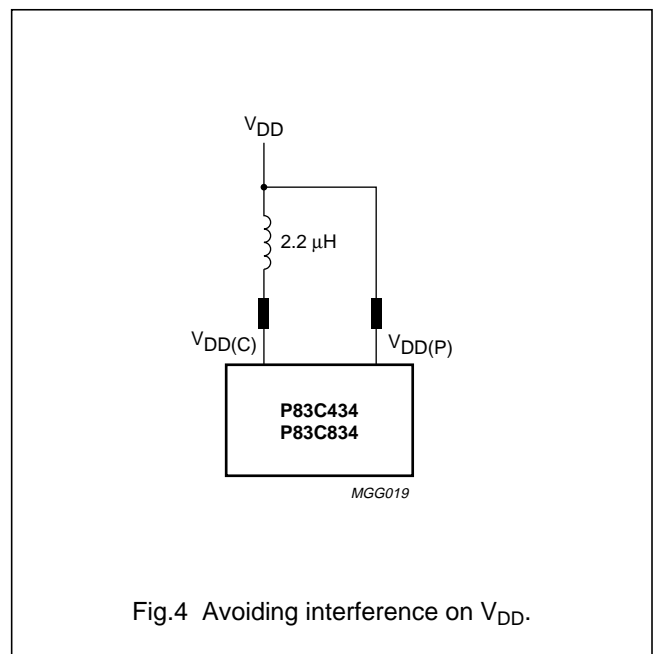

Fig.4 Avoiding interference on V_{DD}.
- External decoupling of the of the CPU supply V_{DD(C)}; to avoid interference on the V_{DD} line, the V_{DD(C)} and V_{DD(P)} pins should be connected as illustrated in Fig.4.